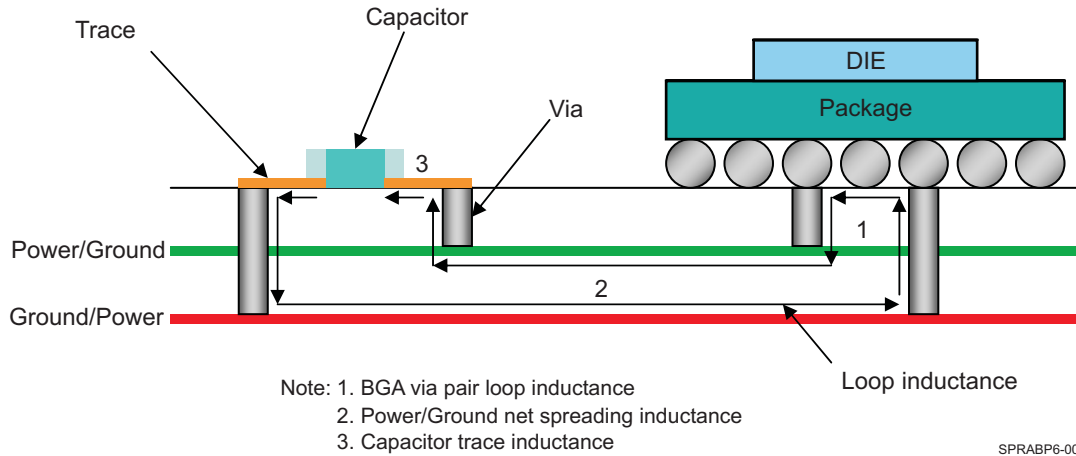
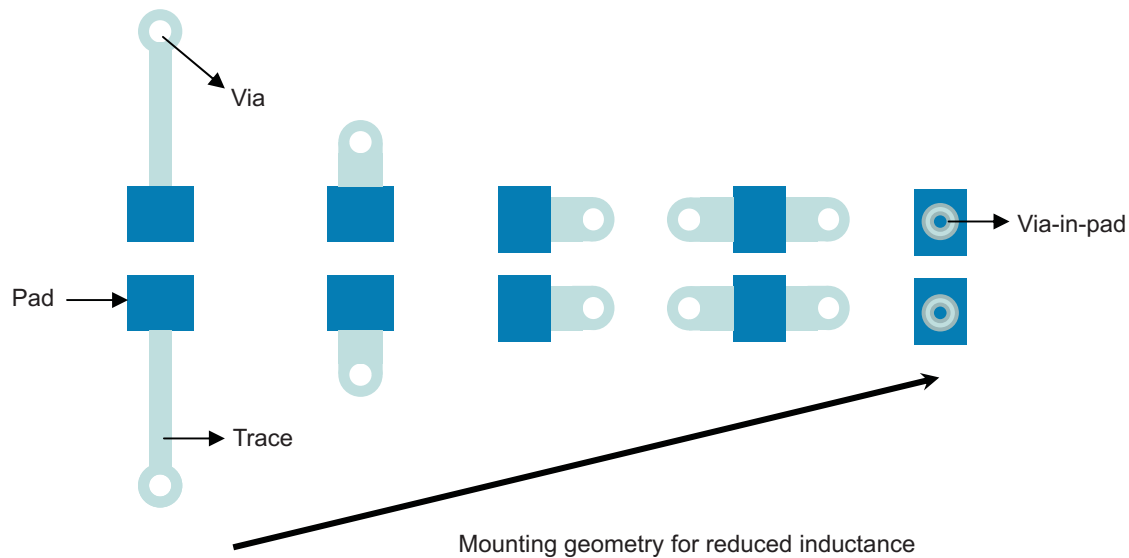

图 8-1. Minimize Loop Inductance With Proper Layer Assignment
图 8-15. Capacitor Placement Geometry for Improved Mounting Inductance
- Optimize the power and ground plane pair carrying high current supplies to key component power domains as close as possible to the same surface where these components are placed (see 图 8-1). This will help to minimize "loop inductance" encountered between supply decoupling capacitors and component supply inputs and between power and ground plane pairs.
The placement of power and ground planes in the PCB stackup (determined by layer assignment) has a significant impact on the parasitic inductances of power current path as shown in 图 8-1. For this reason, it is recommended to consider layer order in the early stages of the PCB PDN design cycle, putting high-priority supplies in the top half of the stackup (assuming high load and priority components are mounted on the top-side of PCB) and low-priority supplies in the bottom half of the stackup as shown in the examples below (vias have parasitic inductances which impact the bottom layers more, so it is advised to put the sensitive and high-priority power supplies on the top/same layers).
Wherever possible, mount the capacitor with the geometry that minimizes the mounting inductance and resistance. This was shown earlier in 图 8-1. The capacitor mounting inductance and resistance values include the inductance and resistance of the pads, trace, and vias. Whenever possible, use footprints that have the lowest inductance configuration as shown in 图 8-15
The length of a trace used to connect a capacitor has a big impact on parasitic inductance and resistance of the mounting. This trace must be as short and as wide as possible. Wherever possible, minimize distance to supply and Gnd vias by locating vias nearby or within the capacitor's solder pad landing. Further improvements can be made to the mounting by placing vias to the side of capacitor lands or doubling the number of vias as shown in 图 8-15. If the PCB manufacturing processes allow it and if cost-effective, via-in-pad (VIP) geometries are strongly recommended.
From left (highest inductance) to right (lowest inductance) the capacitor footprint types shown in 图 8-15 are known as:
1. Use lowest inductance footprint and trace connection scheme possible for given PCB technology and layout area in order to minimize Dcap loop inductance to power pin as much as possible (see 图 8-15).